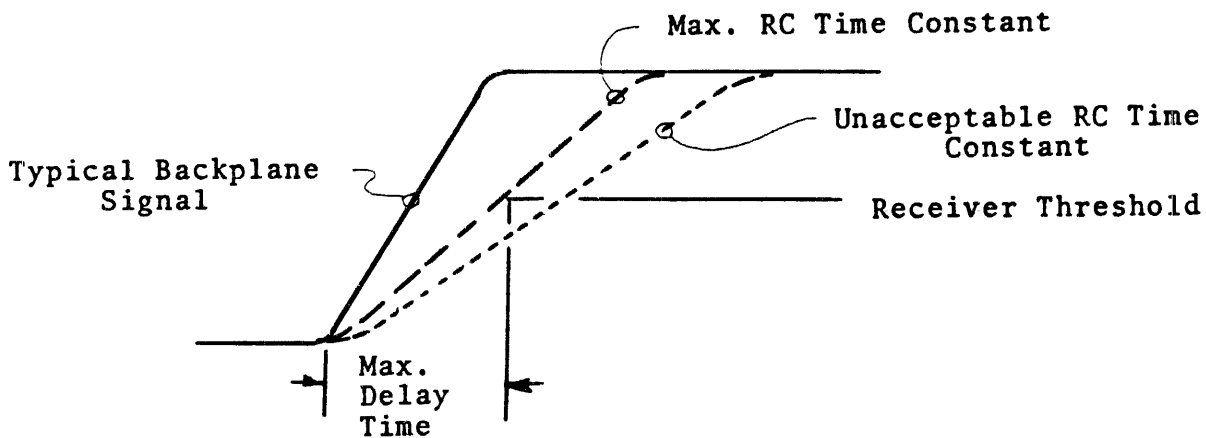

Figure 11. Single Backplane Signal Waveform
- 4.2 In single backplane systems, the number of AC loads is limited by the bus termination impedance. The RC time constant of the loaded backplane determines the rise time of a signal line when a driver unasserts that line. If the maximum RC time constant is exceeded, the signal may not rise within 25 ns. (see Figure 11). 25 ns. is the maximum delay permissible and still meet bus timing requirements.